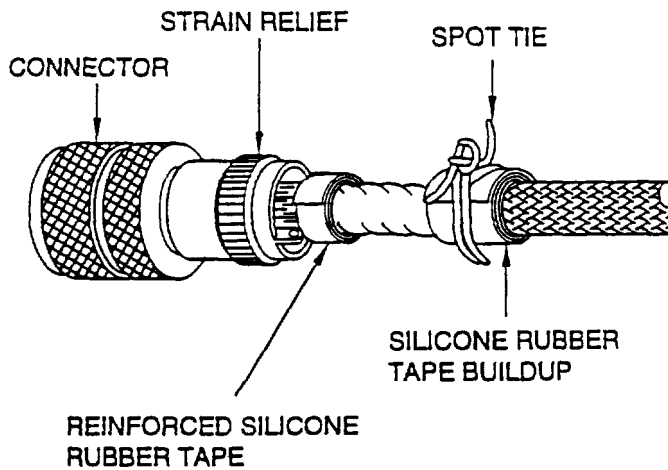

Figure 49. Typical Accessory Protection
c. Cut and remove any spot tie or straps (Figure 49).